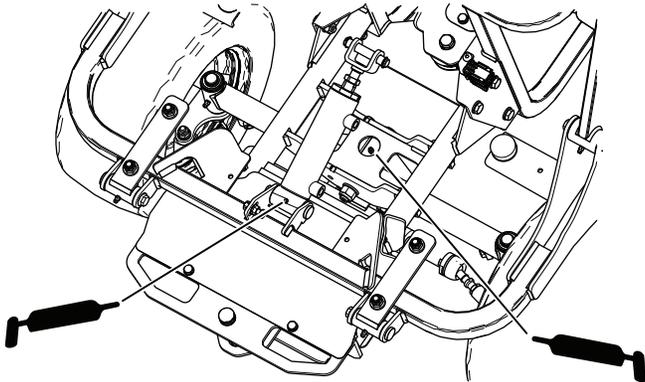

Figure 46
- Hopper cylinder pivot and rear-axle pivot (Figure 46)